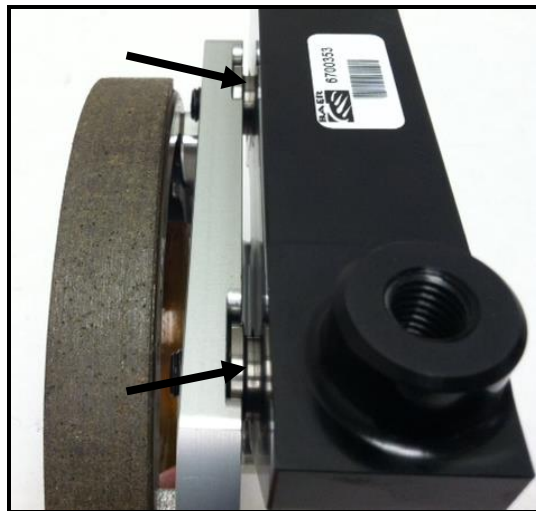

Figure 5: Shim placement to center caliper
4. Install the appropriate shims (between the slider pin head and park brake assembly), removing one bolt at a time, and snug the same bolts for fit check. See Figure 5 for reference. Install the caliper again for clearance check.